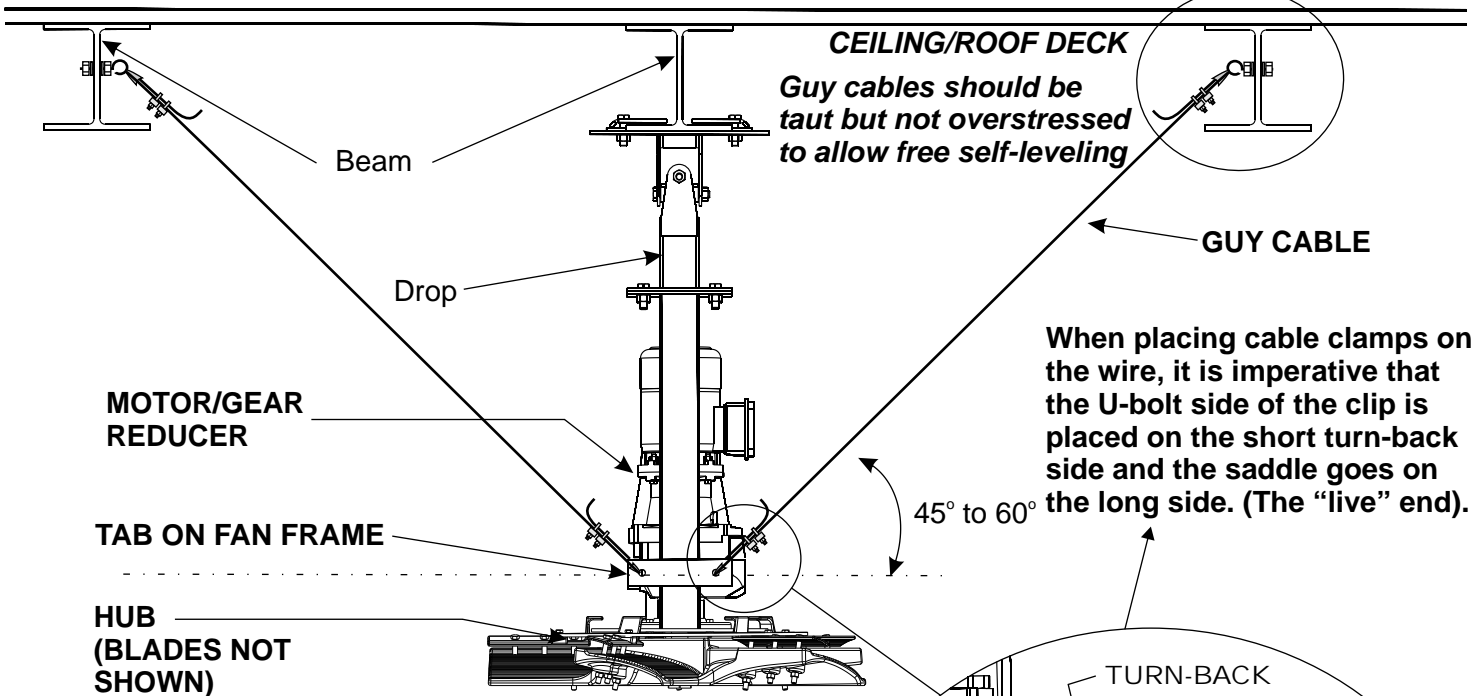
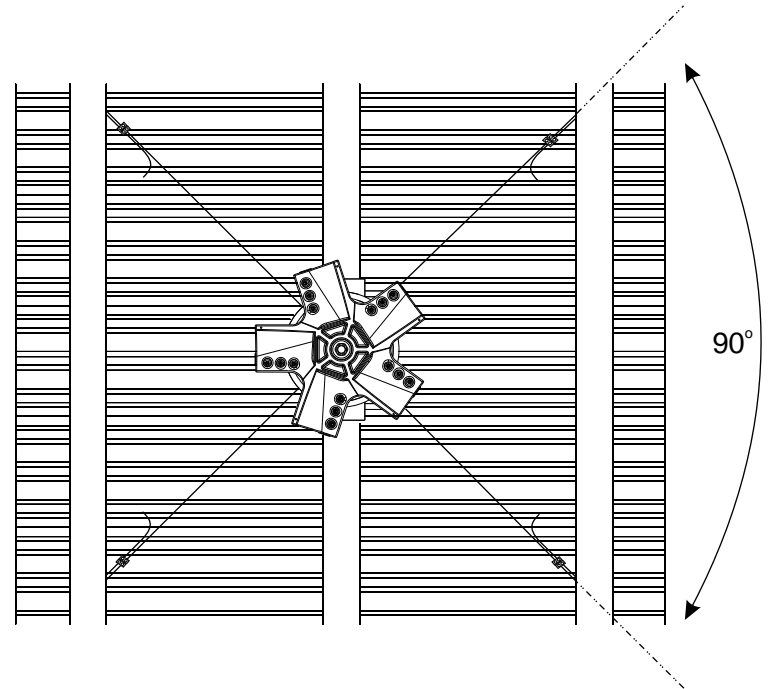

Fig. 15
Fig. 17
STRUCTURAL NOTE: Guy cables must be installed or fastened to a structural component of the building at the angle shown in Fig. 15 and Fig. 17.
2. Install eye bolt with nuts and washers in I Beam as per Fig.15.
5. Guy wires should be taut but not overstressed to allow free self-levelling. They should also be approx. 90° apart (Fig.17).